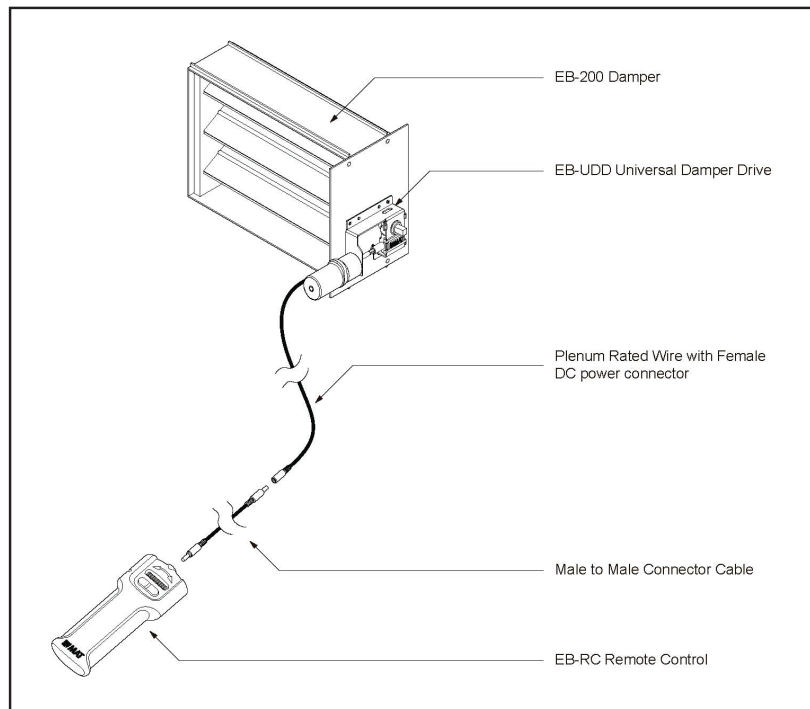

Figure 1 – Illustration for System Connectivity Test
4. Align square shafts so as to catch set screws directly on flats. Tighten all four (4) set screws with a 1/8" Allen key so they are snug on the damper shaft. **Do not over tighten.**
- a. Connect the EB-UDD universal damper drive connector to the hand held remote control using the grey male-to-male connector cable supplied with the remote. (See Figure 1)